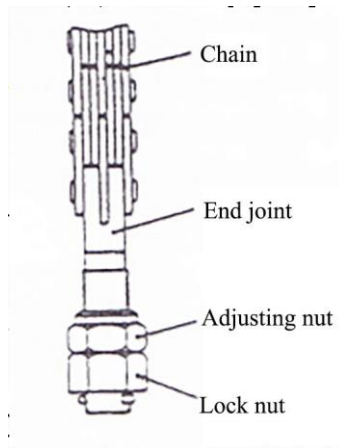

Fig. 6-12
- (1) Put a pallet on the fork and park the forklift on flat ground.
- (2) Make the forks and pallets fall to the ground.
- (3) Remove the upper end joint of the chain and remove the chain from the sprocket as shown in Fig. 6-12.
- (4) Lift the inner mast.
- (5) After confirming that the carriage has been disengaged from the inner door frame, remove the carriage.
- (6) Replace the main roller.